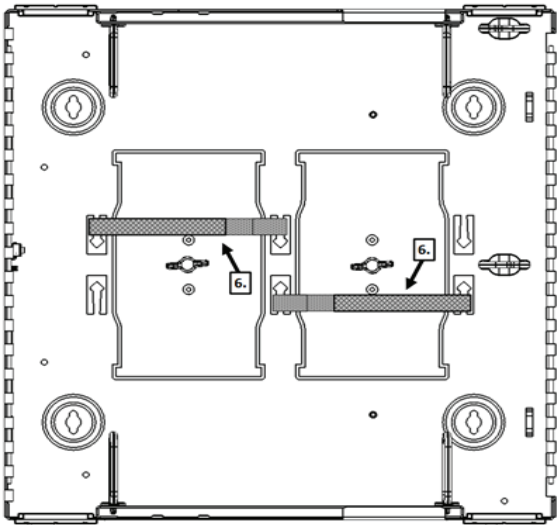

Figure 9
- 5. Secure the VELCRO to the trays (Figure 9).